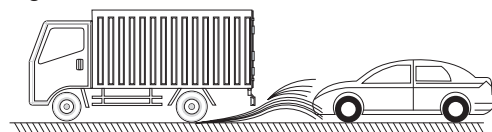

Figure 5
⑤ When backing up the vehicle in rainstorm or heavy snow, as shown in Figure 5. For the above misjudgments, we have already taken measures to fix the hardware and software systems to reduce the possibility of misjudgments to the best extent possible.